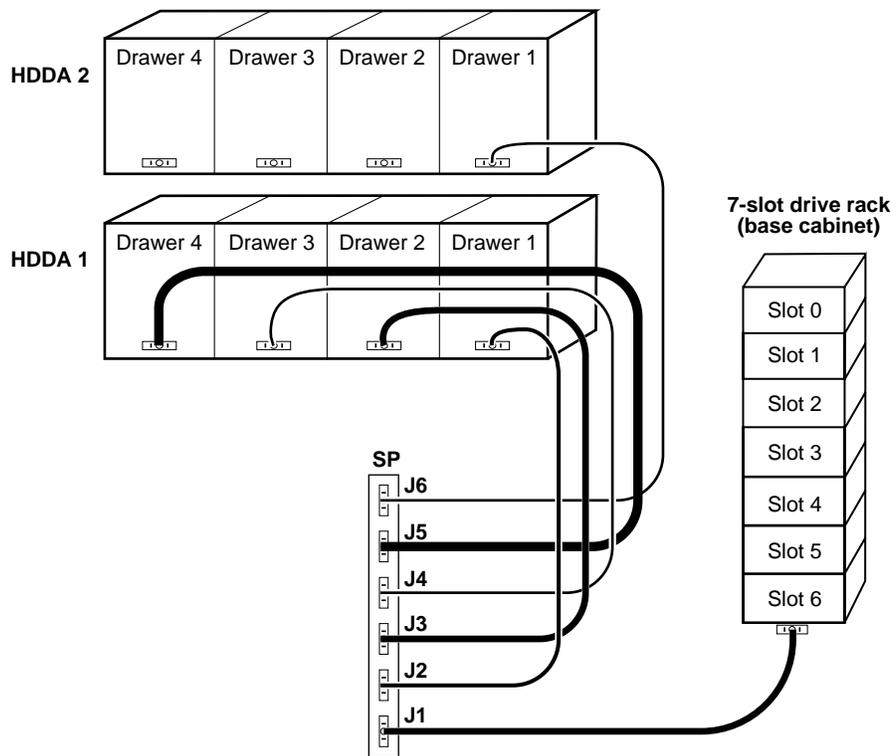

Figure 44. Example SCSI cabling for NS 7000/030 (back view)
2. Using Figure 44 on page 46, locate the failed SCSI cable for the drive drawer.